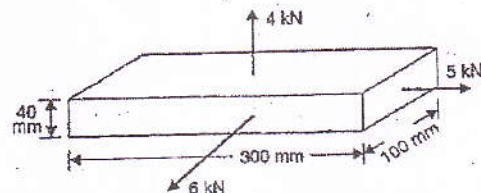

Fig.2
b) A metallic bar $300 \text{ mm} \times 100 \text{ mm} \times 40 \text{ mm}$ is subjected to a force of 5 kN (tensile), 6 kN (tensile), 4 kN (tensile) along x, y, z directions respectively shown in fig.2. Determine change in the volume of the block. Take $E = 2.0 \times 10^5 \text{ N/mm}^2$ and Poisson's ratio is 0.25.